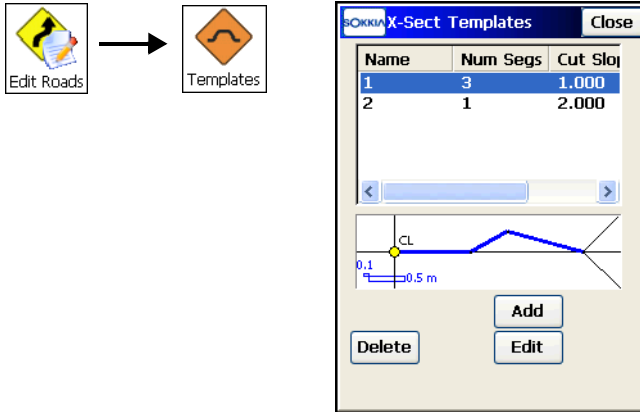

Figure 7-22. X-sect Templates
To work with Cross-Section Templates, tap **Edit Roads** ▶ **Templates**. The X-Sect Templates screen displays (Figure 7-22).
1. To create a cross-section, tap the **Add** button on the *X-Sect Templates* screen (Figure 7-22).